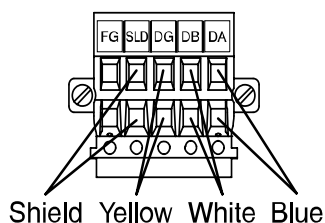

Fig.1
- (1) Make sure to connect the signal cables to designated pins. (Refer to Fig.1)